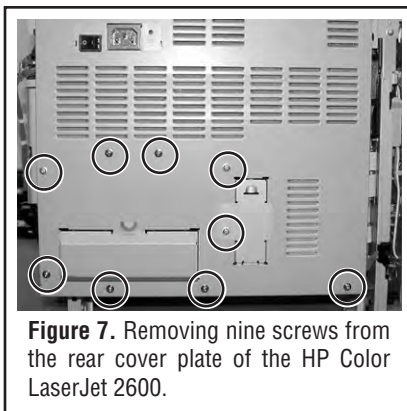

Figure 7. Removing nine screws from the rear cover plate of the HP Color LaserJet 2600.
- Remove nine silver screws, circled in Figure 7, from the rear cover.